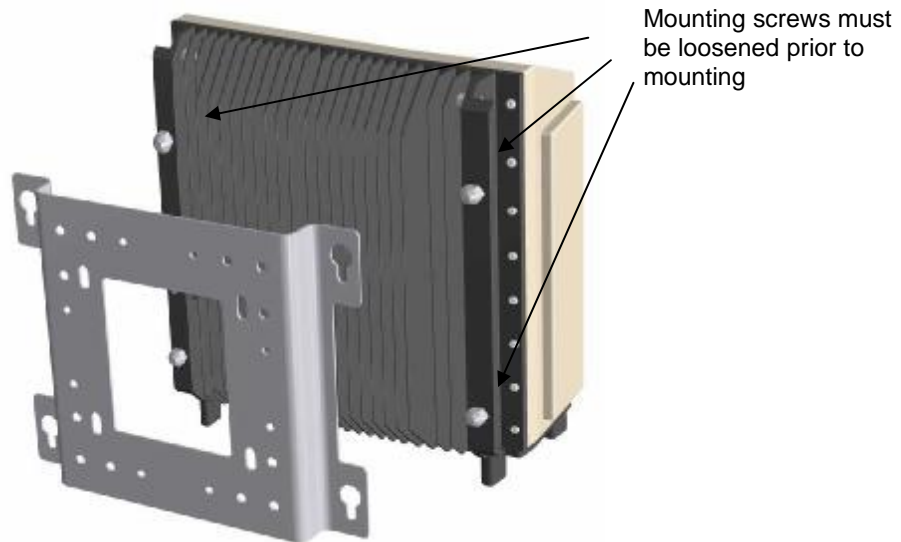

Figure 9: Un-tighten the four mounting screws on the back of the TMB before you hook it onto the mounting plate.
Step 1: Check that the four mounting screws on the back of the TMB are un-tightened to the extent of slotting on to the mounting plate. The screws cannot drop out. Fig. 9.